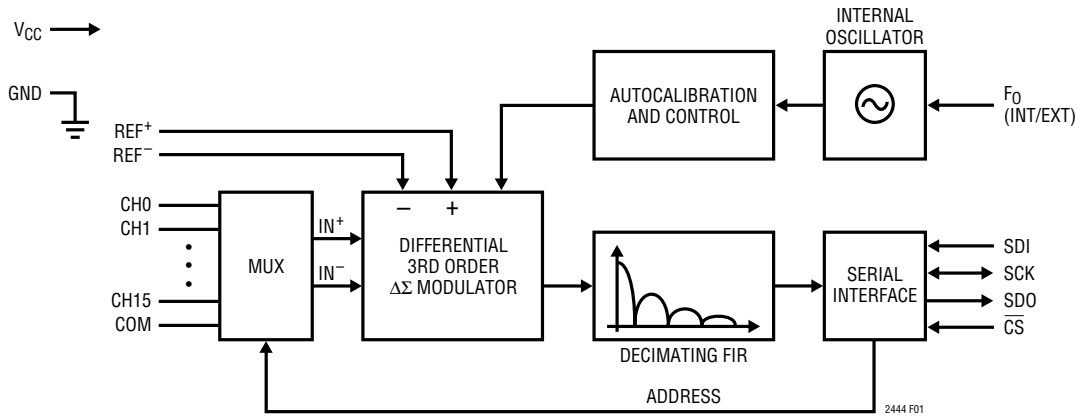
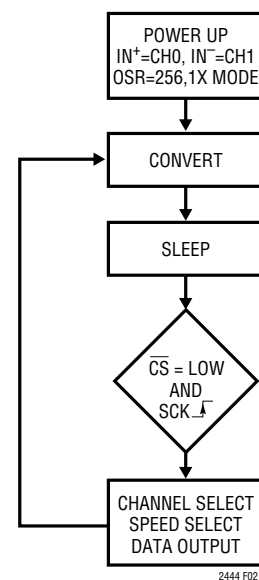

Figure 1. Functional Block Diagram
Figure 2. LTC2444/LTC2445/LTC2448/LTC2449 State Transition Diagram
The LTC2444/LTC2445/LTC2448/LTC2449 are multi-channel, high speed, delta-sigma analog-to-digital converters with an easy to use 3- or 4-wire serial interface (see Figure 1). Their operation is made up of three states. The converter operating cycle begins with the conversion, followed by the low power sleep state and ends with the data output/input (see Figure 2). The 4-wire interface consists of serial data input (SDI), serial data output (SDO), serial clock (SCK) and chip select (CS). The interface, timing, operation cycle and data out format is compatible with Linear's entire family of $\Delta\Sigma$ converters.